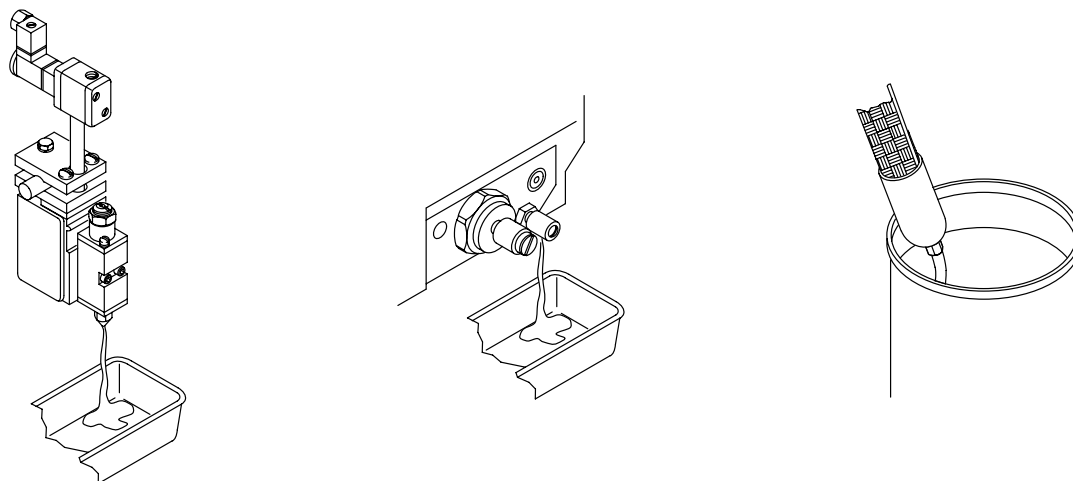

Figure 5-5 Methods of draining the melter
3. See Figure 5-5. Drain the melter by pumping as much hot melt material from the tank as possible using one of the following methods.